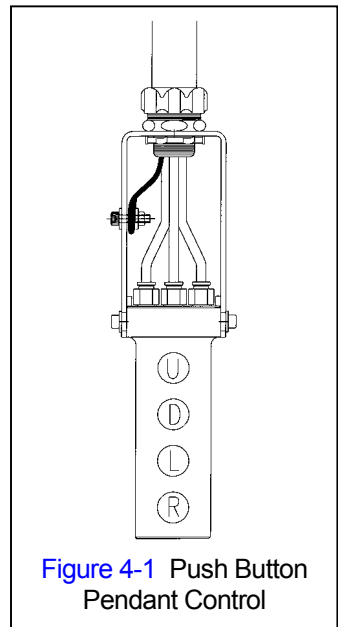

Figure 4-1 Push Button Pendant Control
4.3.1 Pendant Control - When using the pendant control depress the Up button to raise the hoist's hook or the Down button to lower the hoist's hook as shown in Figure 4-1. Depress the Left and Right buttons to move the trolley horizontally. To stop motion release the buttons.